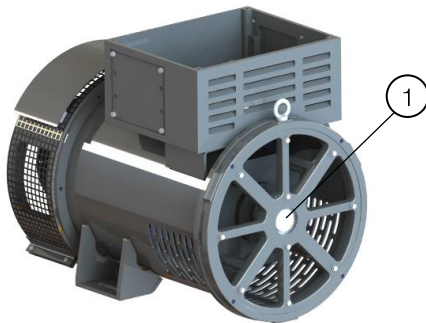

Figure 14.5: Installation of threaded rod
4. In the side not coupled, a threaded rod shall be installed (M20) in the shaft center hole, to support and sustain the rotor suspended in the center of its radial clearance, making disassembly of generator back cover possible. Figure 14.5 indicates the installation point of the shaft support rod.
Key of Figure 14.5: